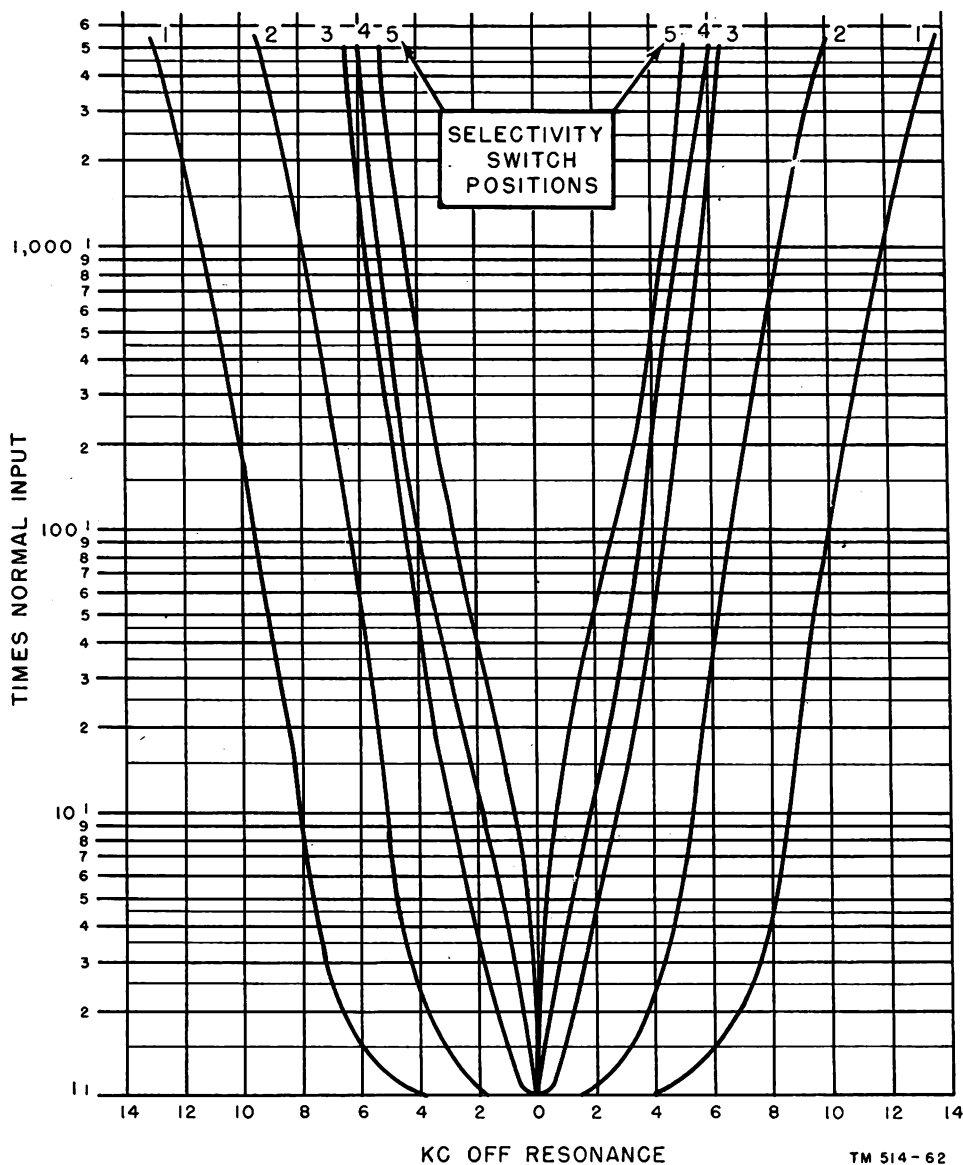

Figure 74. Radio Receiver R-127/CRD-2, selectivity curves for five positions of the *SELECTIVITY* switch.
a. In position 1, the i-f bandwidths are sufficiently broad for high-fidelity reception (curve 1 of fig. 74). In this position, the interstage coupling networks between the first and second
b. Position D/F-2 always is used when taking visual bearings with Radio Set AN/CRD-2 (curve 2 of fig. 74). In this position, all B points of the same four transformers are con-
grid of the first i-f amplifier tube to the top of coil L-126, providing the least selectivity (with crystal). This position is useful for c-w, aural-null, or very sharp modulated signal reception (curve 3 of fig. 74).
e. In position 4, coil L-126 is tapped down and a high degree of selectivity is provided for c-w reception (curve 4 of fig. 74).
f. Position 5 connects the crystal and the grid of the tube to another tap on coil L-126, providing extreme selectivity (curve 5 of fig. 74). This position is useful for aural-null reception of c-w signals through extreme interference.